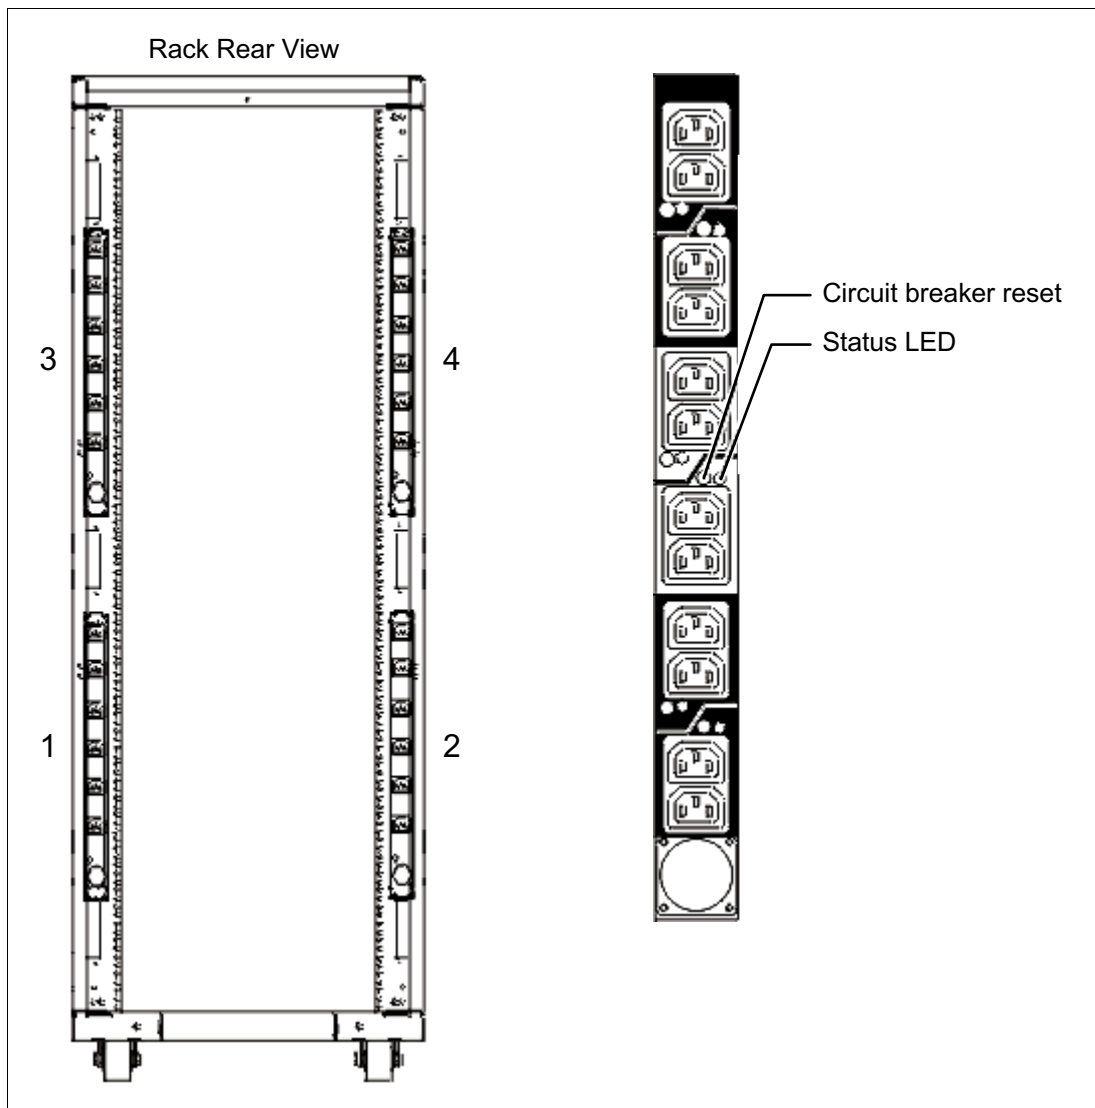

Figure 1-10 PDU placement and PDU view
- ▶ Up to four power distribution units (PDUs) can be mounted in the PDU bays (see Figure 1-10 on page 32), but others can fit inside the rack. For more information, see 1.14.7, “The AC power distribution unit and rack content” on page 31.
Four PDUs can be mounted vertically in the back of the T00 and T42 racks. See Figure 1-10 for the placement of the four vertically mounted PDUs. In the rear of the rack, two additional PDUs can be installed horizontally in the T00 rack and three in the T42 rack. The four vertical mounting locations will be filled first in the T00 and T42 racks. Mounting PDUs horizontally consumes 1U per PDU and reduces the space that is available for other rack components. When mounting PDUs horizontally, the best approach is to use fillers in the EIA units that are occupied by these PDUs to facilitate proper air flow and ventilation in the rack.